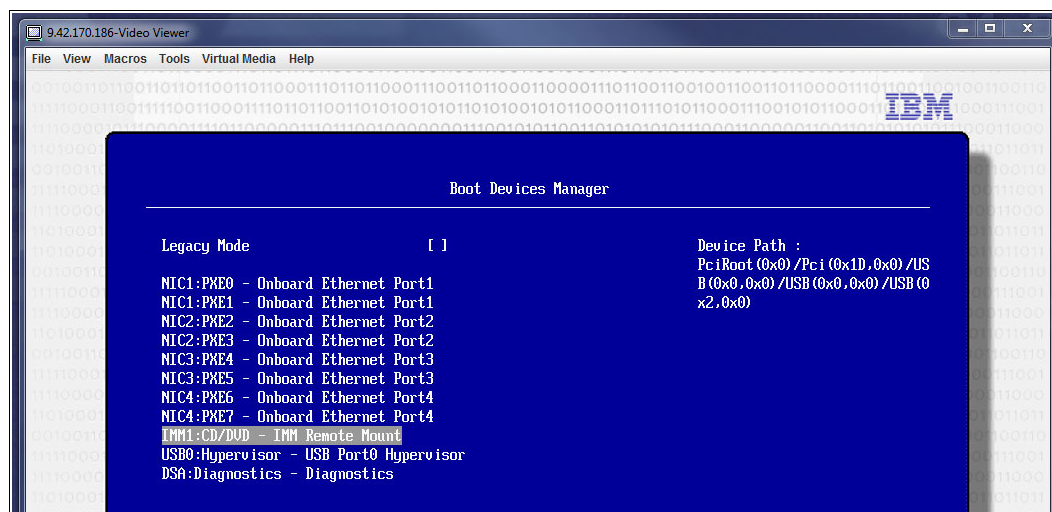

Figure 5-10 Mounted Virtual Media displayed in the UEFI Boot Devices Manager
9. IMM Virtual Media-mounted files will show up under Boot Devices Manager within UEFI as bootable devices, as shown in Figure 5-10.